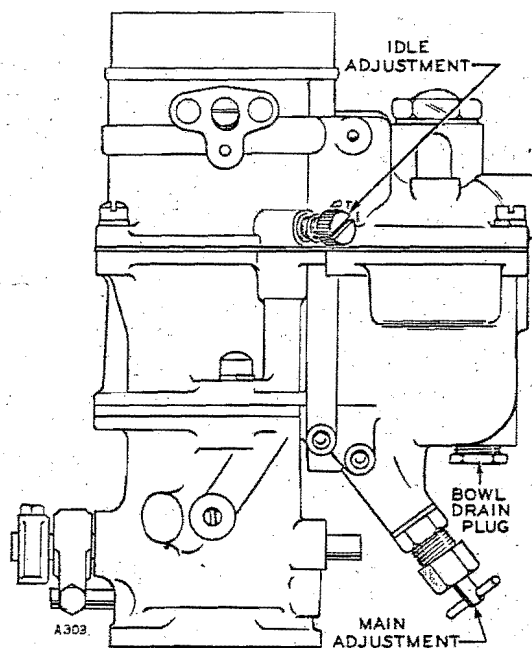

Fig. 9 Gasoline Carburetor Adjustments
**CARBURETOR, GASOLINE.** - The carburetor has main and idle adjusting needle valves (Fig. 9). The main adjusting needle, at the bottom of the carburetor, affects the operation at the heavier load conditions. The idle adjusting needle, at the side of the carburetor, affects the operation at the light and no load conditions.